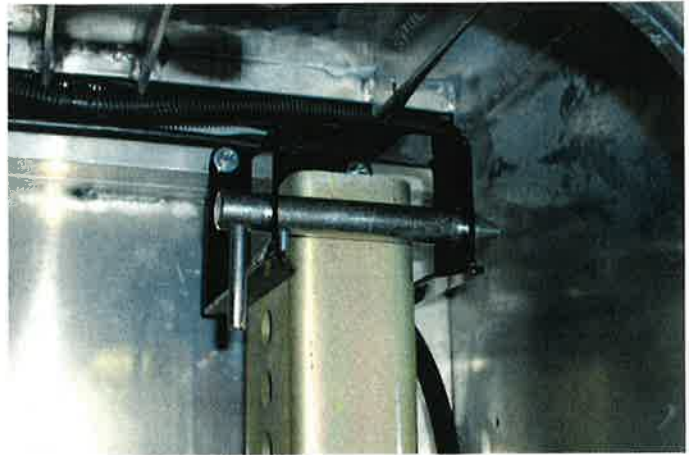

FIGURE 10
- (b) Tilt bus lift adjustment tube up until the other end fits into the adjustment tube locking bracket weldment. Lock adjustment tube into place with adjustment tube retainer pin. See Figure 10.